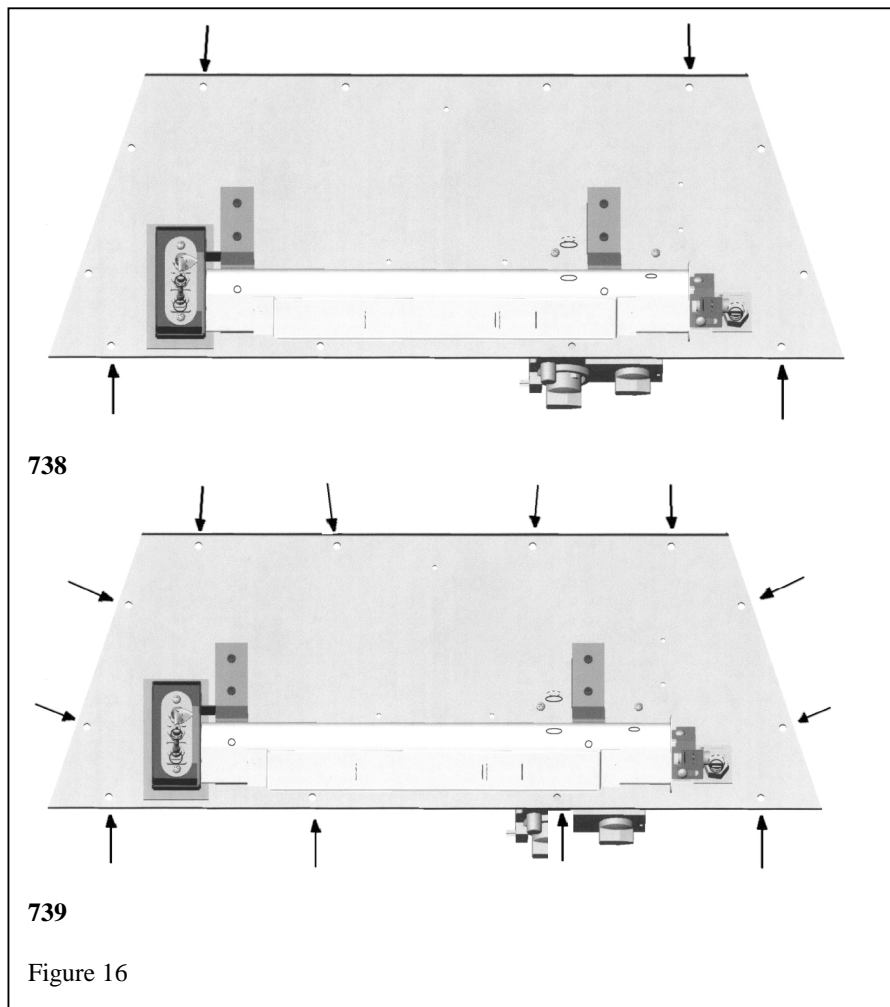

Figure 16
2. Detach the burner module by removing 4 screws on the 738 and 12 screws on the 739. See figure 16.